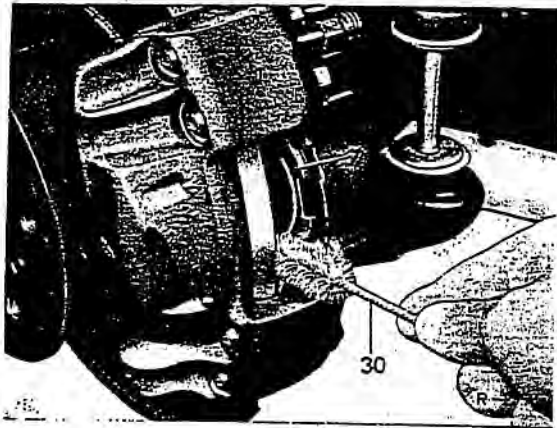

Fig. 42-10/18
- Remove the locking clips on 1st version brake calipers where the lock pins (10) are secured with locking clips (21). Then drive the lock pins out of the brake caliper (9) and remove the crossleaf spring (23) (Fig. 42-10/23).